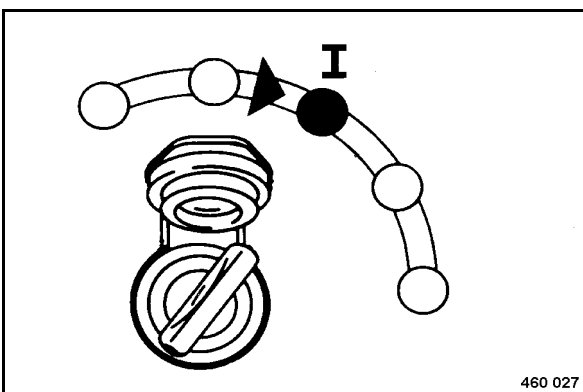

Fig. 50
- Turn the ignition key (Fig. 50) to position "I".